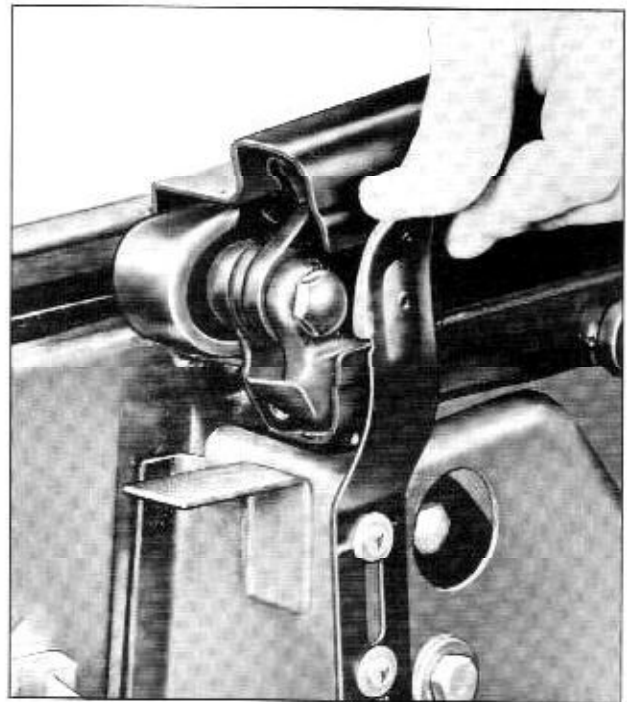

Fig. 15-74 Disengaging Catch Clip
3. At each side of car, move upper end of catch clip inboard to disengage top assembly. (Fig. 15-74)